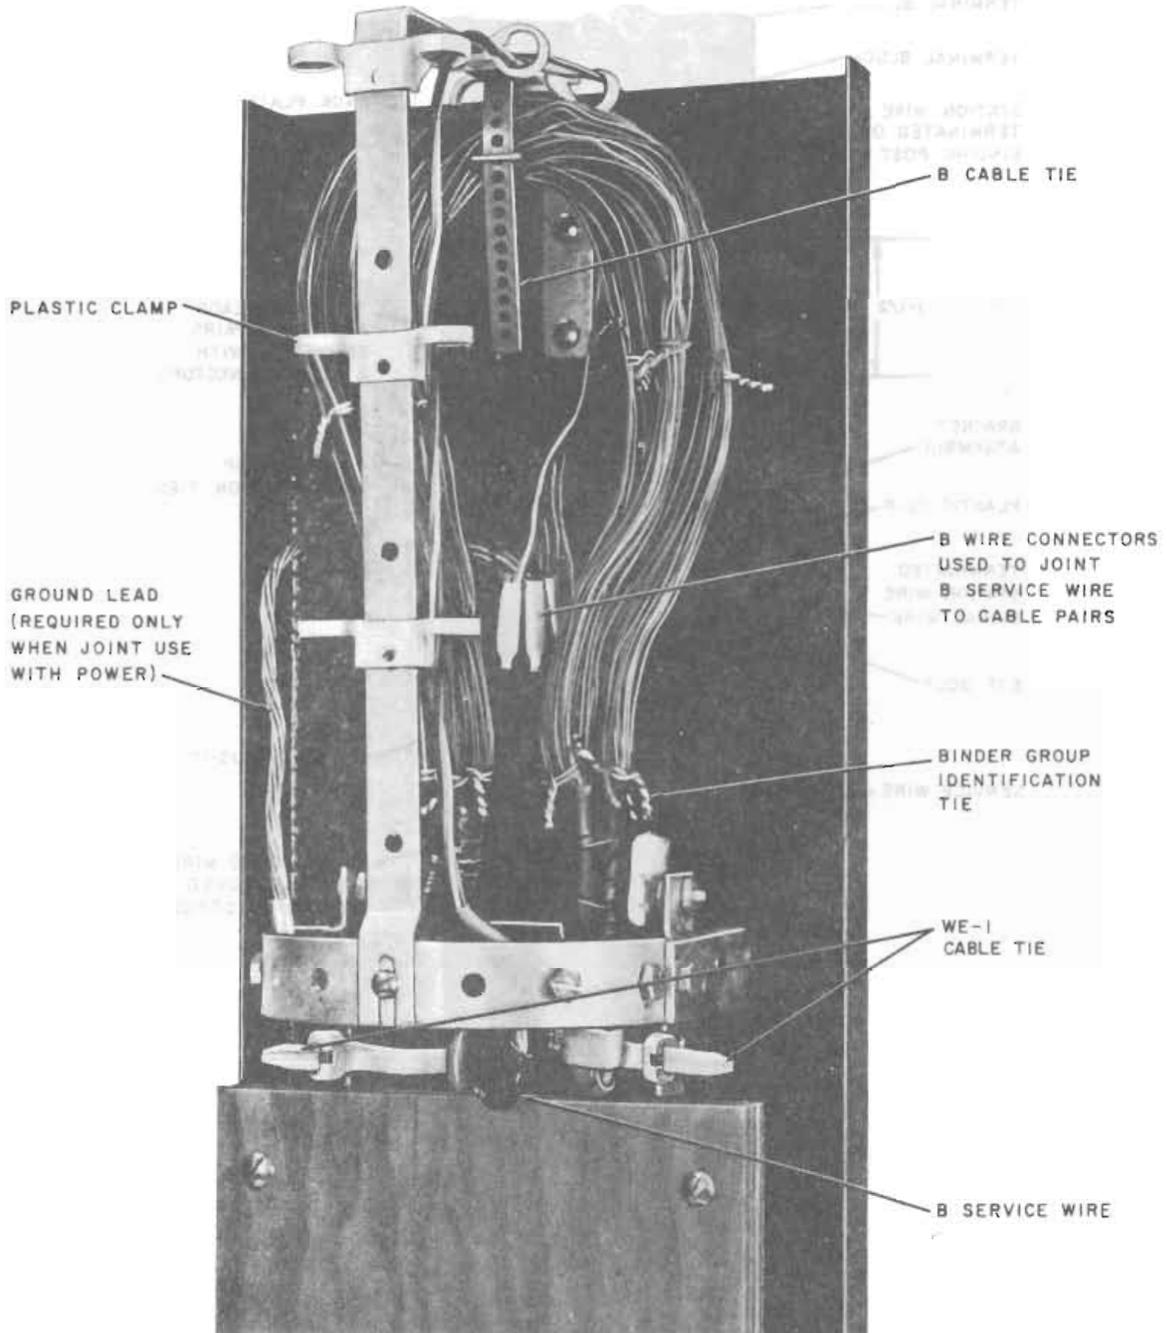

Fig. 18—Service Wire Installed—J Cable Closure (Nonprotected)
**10.02** Run the service wire through the plastic clip on the bracket assembly and down through the plastic clip on the backplate (Fig. 18).
**10.03** At each cable butt, place binder group identification ties (see 7.01) around the binder group containing the cable pairs to be connected. Remove the unit binder. Remove the assigned cable pair from the binder group and cut the cable pair (see 7.02). Place the cable pair up through the plastic clip on the backplate and bend down. Cut the cable pair conductors and service wire conductors even, 1-1/2 inches below the plastic clip. Connect the service wire conductors to the cable pair conductors with 700-type connectors or B wire connectors (Fig. 18, see 6.03).